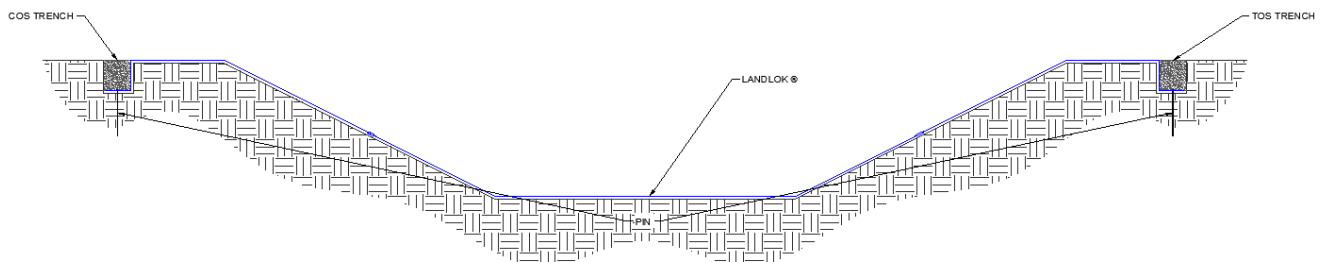

Figure 17: Crest of Slope (COS) Trenches Complete
1. Starting with the downstream end of the site select one of the COS trenches to begin the **PROPEX** Landlok TRM laydown process. To ensure proper anchoring of the overlapped areas the proceeding roll width must be laid out before the current roll width can be anchored with exception to the final roll width at the TC trench. For straight sections of a channel, TRM panel lengths should be long enough to construct both COS trenches while also covering the surface of the channel being armored. (Figure 17) Panel edges should rest perpendicular to the channel center line. For best results, panels of **PROPEX** Landlok TRM should be continuous and free from seams or roll end overlaps that are parallel to the centerline of the channel. Panel edge overlapping should follow a pattern of placing each proceeding panel's edge overtop the previous panel edge, shingling the panels in the direction of the water flow.
11. Secure **PROPEX** Landlok TRM with pins in the opposite COS trench. Suggested placement of pins for the opposite COS trench is along the bottom of the trench on 12 in (300 mm) centers (Figure 17).
12. Backfill and compact the opposite COS trench in the location of the first TRM panel only (Figure 17).